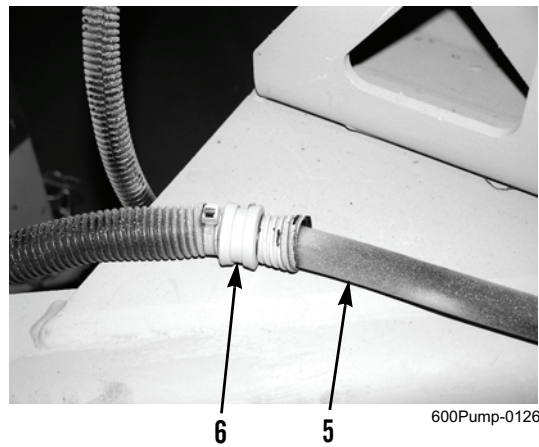

Figure 4. Intervehicular Electrical Cable Clamp.
6. Secure intervehicular electrical cable (Figure 4, Item 5) to right side of trailer frame with clamps (Figure 4, Item 6).